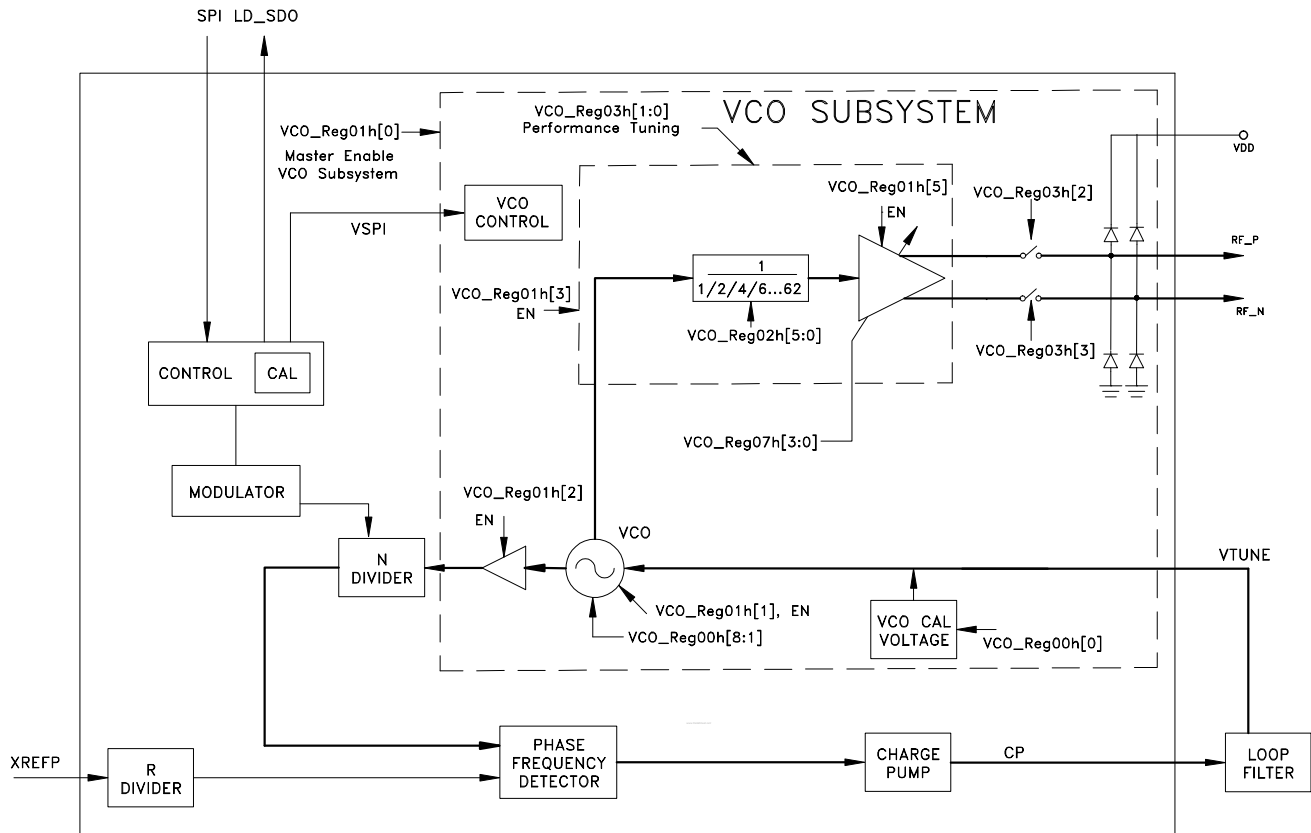

Figure 40. PLL and VCO Subsystems
All modes are VCO register programmable as shown in Figure 40. One loop filter design can be used for the entire frequency of operation of the HMC832LP6GE.
- required to change the VCO Output Divider value if needed (VCO\\_Reg 02h), please see Figure 40 for more information.
Please refer to Figure 40 for more information. Also note that the VCO subsystem registers are not directly accessible. They are written to the VCO subsystem via PLL Reg 05h. More information about VCO subsystem SPI in section 1.3.1.